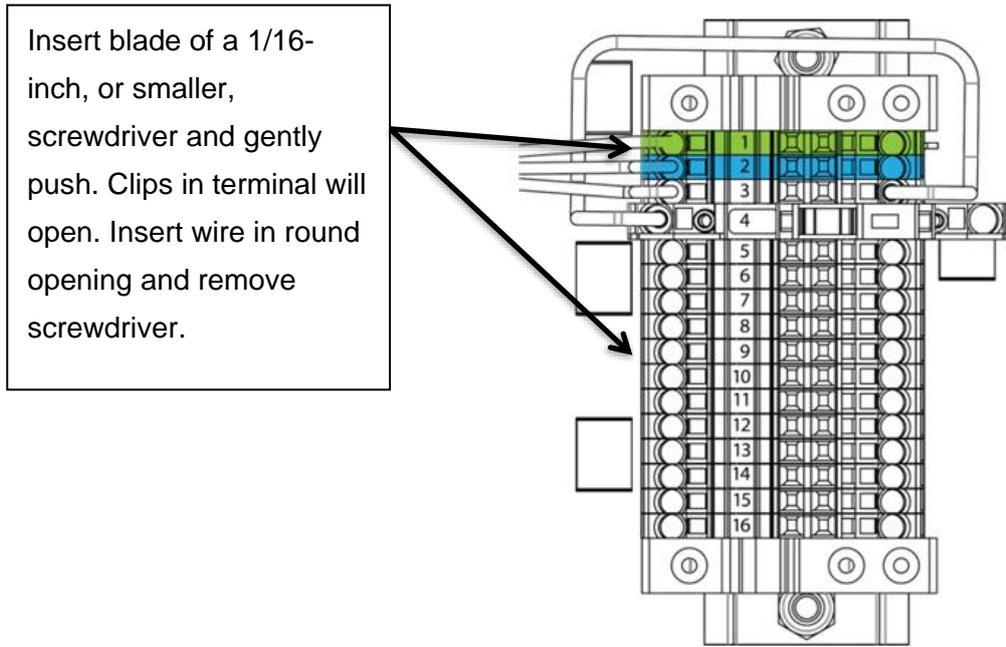

Figure 4.9 Terminal Block
The Model 3017M uses WAGO® connectors for power, signal, and alarm connections. See Figure 4.9, Table 4.1 and Table 4.2. The individual connector blades are opened by inserting the tip of a narrow, flat-blade screwdriver into the square opening of the connector. Insert the screwdriver tip until it bottoms-out in the connector. Insert the stripped wire and remove the screwdriver. Gently pull on the wire to insure that the blades of the connector have secured the wire.
4. Connect the three wires to the proper connector using the information in Table 4.1 and Figure 4.9.